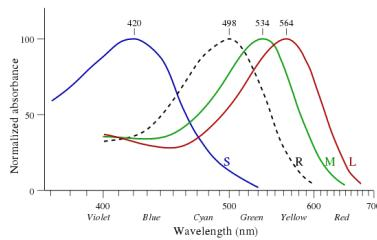

Figure 3: Cones and Rod, relative sensitivity, normalised
**Definition 1.7.** Cone cell is responsible for day vision, there are three variants of cones: L-cones, it has a absorbance peak at 560nm(in fact, it is most sensitive to yellow), responsible for red light. M cones, has absorbance peak at 530 nm, sensitive to and responsible for green light. S cones, absorbance peak at 420 nm, sensitive to blue light, peak at 420 nm. They are illustrated in figure 3. [2]